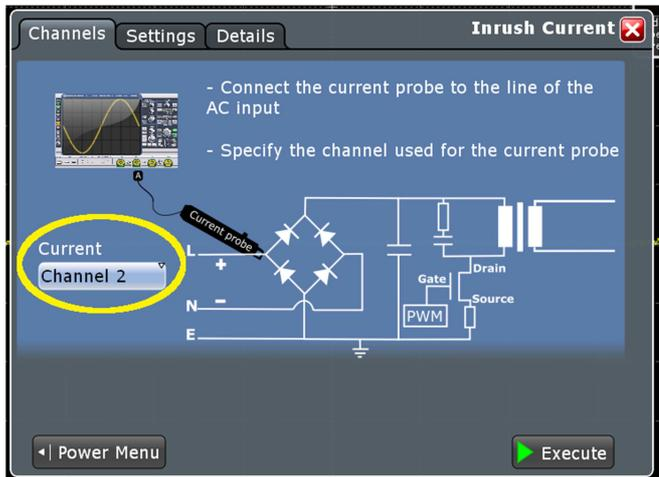
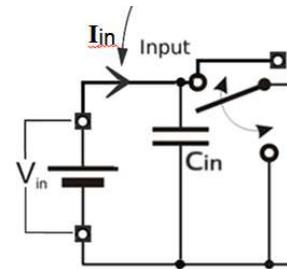

Figure 12: Channels Tab for Inrush Current setup
Figure 13: Current probe point for DC/DC converter Inrush Current measurement
(3) In the 'Channels' tab, select the channel that to which the I_{in} current probe is connected (Figure 12). (Note that the graphic displayed refers to an AC-input SMPS; place the current probe at the location shown as I_{in} in Figure 13.)